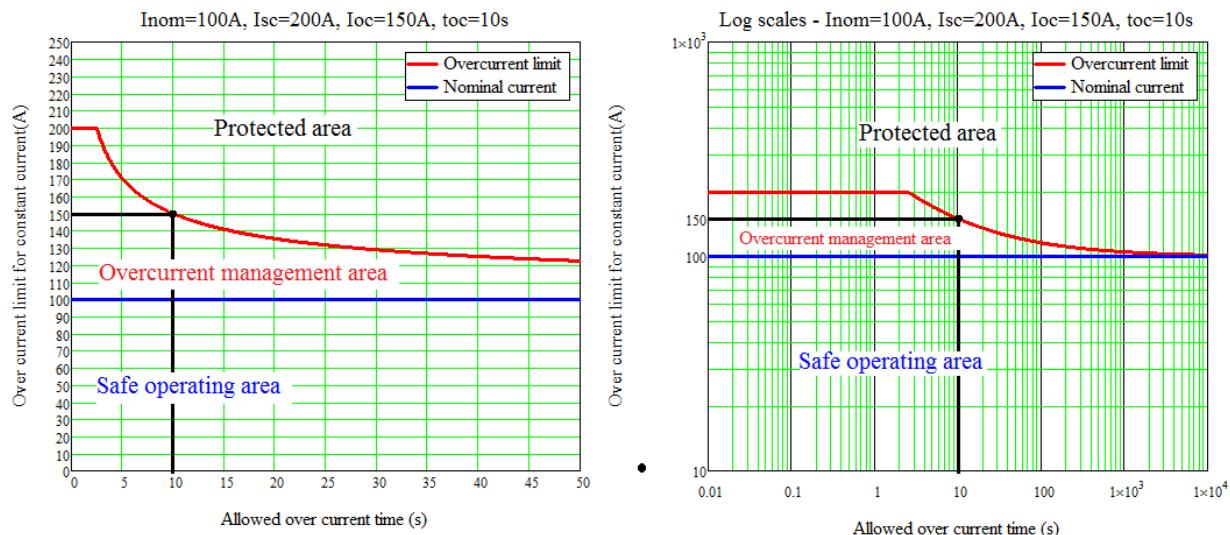

Figure 14 - Example of overcurrent management curves for constant current
The management of overcurrent follows an I^2t logic. The parameters given in the initial configuration are used to set the reference: $(I_{oc} - I_{nom})^2 \cdot t_{oc}$, and then for any continuous current, it is possible to determine the maximum allowed time with $(I(t) - I_{nom})^2 \cdot t = (I_{oc} - I_{nom})^2 \cdot t_{oc}$. The next paragraph and Figure 14 show an example in order to support the comprehension.
We define a battery with $I_{nom}=100A$, $I_{oc}=150A$, $t_{oc}=10s$ and the hard current limit $I_{sc}=200A$ for its discharge characteristics. With only these parameters, FreeSB-PR can manage the overcurrent according to the explained method. For any constant current, the behavior of FreeSB-PR is resumed on the following curves Figure 14.
- Any current below the nominal current can operate for an infinite time – the safe operating area under the blue line in Figure 14.
- Any current between I_{nom} and I_{oc} can be maintained for a short amount of time – the overcurrent management area between the blue and red lines in Figure 14**Erreur ! Source du renvoi introuvable.** For instance a 110A current (10% over the nominal) is allowed for 250s while a 175A current (75% over the nominal) is allowed for only 4.5s. This red curve is defined from I_{nom} , I_{oc} and t_{oc} parameters: $I(t) = \sqrt{\frac{(I_{oc}-I_{nom})^2 t_{oc}}{t}} - I_{nom}$ - comes from : $(I(t) - I_{nom})^2 \cdot t = (I_{oc} - I_{nom})^2 \cdot t_{oc}$